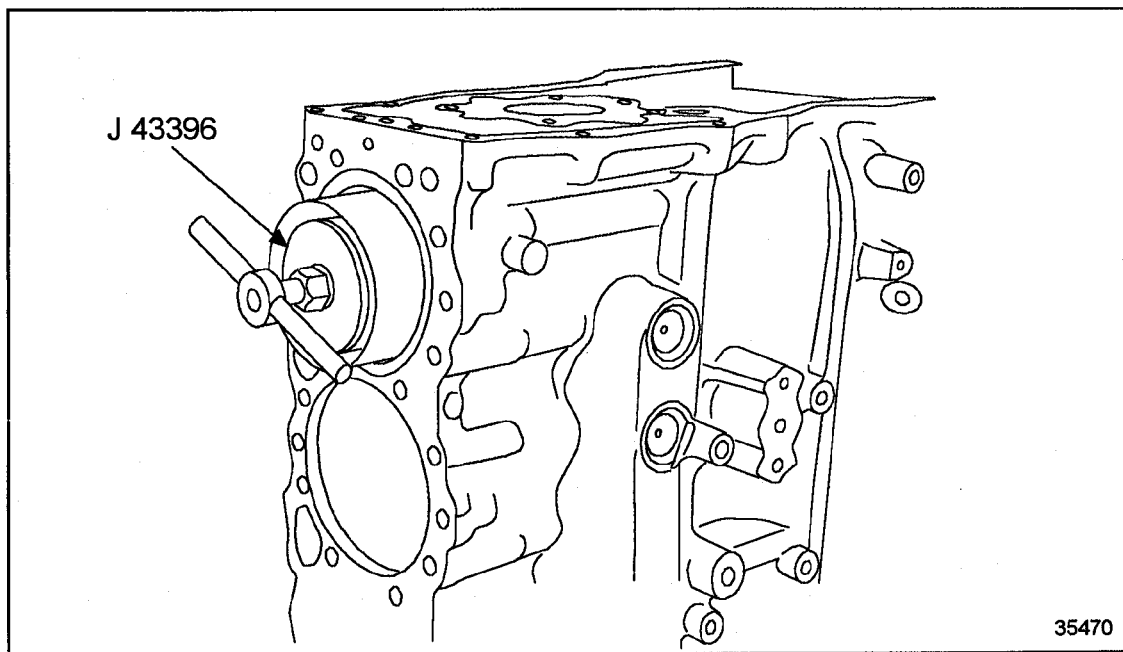

Figure 1-257 **Cylinder Kit Removal Tool J 43396**
7. Insert cylinder kit removal tool J 43396 in the bore of the cylinder to be removed. Tighten the bolt snug. (Do not overtighten.) See Figure 1-257.